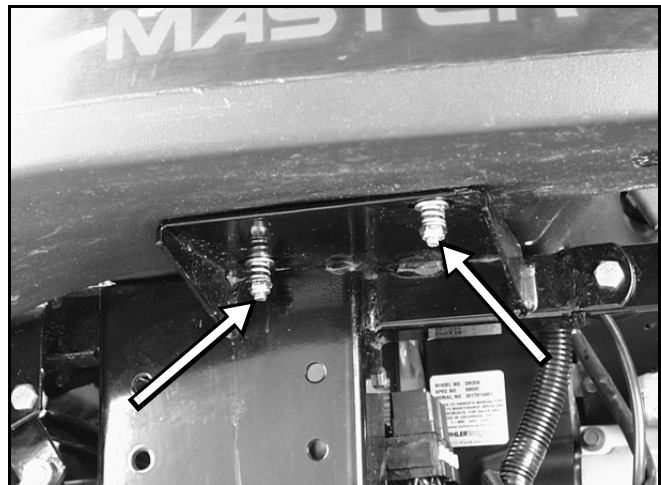

Figure 92
4. Remove the tire. Then, remove the 2 nuts, springs, and washers securing the center of the fuel tank to the frame (Figure 92).